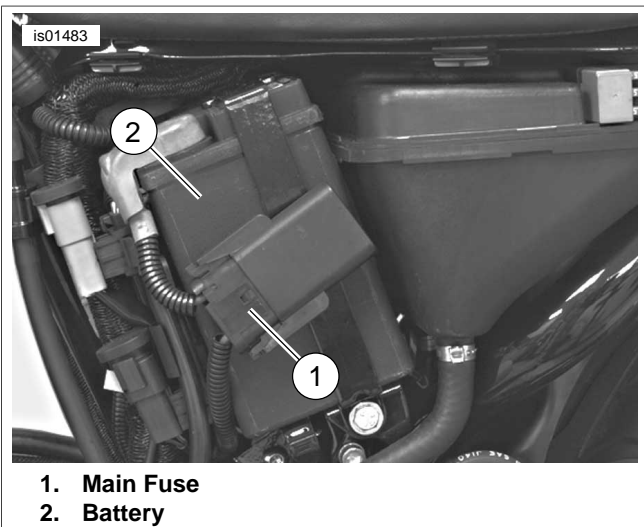

Figure 2. Disconnect Main Fuse
2. Remove short screws and washers (3) and long screws (4) and retainers (5) and lift seat base (6) from frame.
4. See Figure 2. Locate and disconnect the main fuse (1).